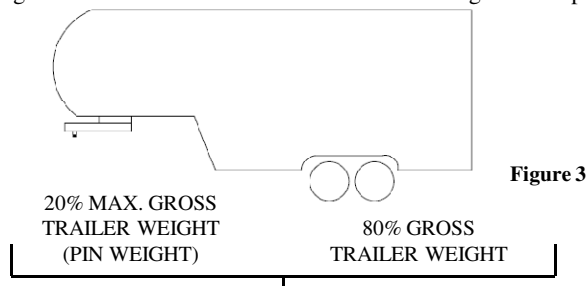

Figure 3
- King pin weight must not exceed 4,200 pounds (See Fig. 3). If in doubt have king pin weight measured by qualified facility.
2. The 5th Airborne pin box is designed for a maximum of 20% Gross Trailer Weight on the pin (Pin Weight). See Fig. 3